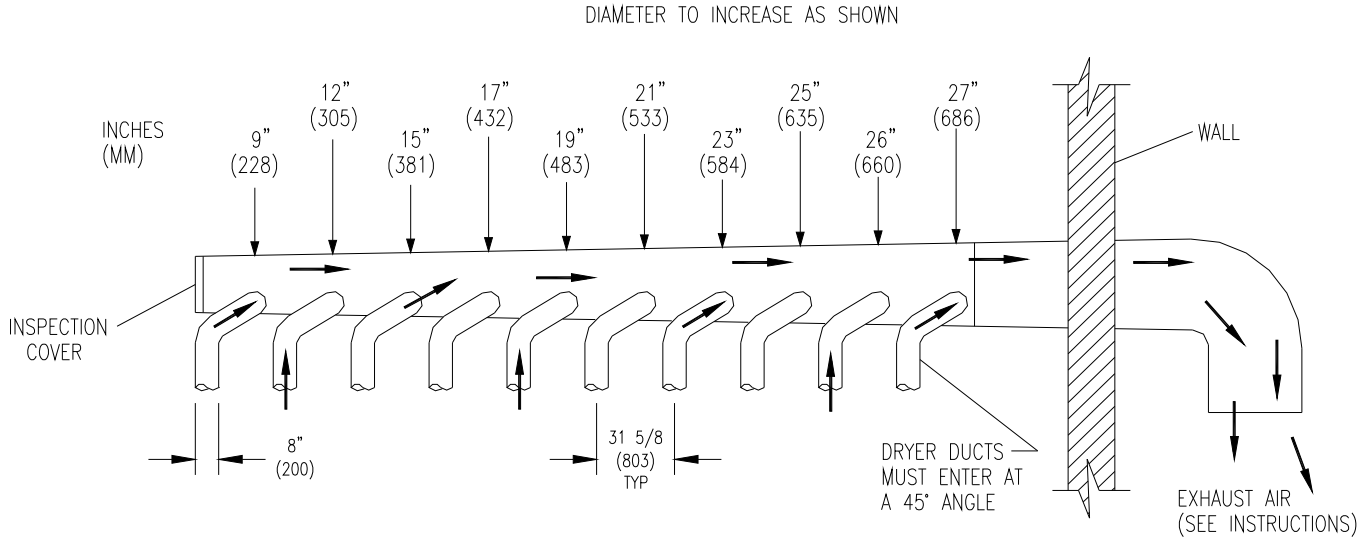

FIGURE 2- Dryer Exhausting Using A Main Discharge Duct.
6. EXHAUST INSTALLATION. (Refer to Figure 2 at the end of section 6.) Exhausting of the dryer(s) should be planned and constructed so that no air restrictions occur. Any restriction due to pipe size or type of installation can cause slow drying time, excessive heat, and lint in the room.
Installation of several dryers, where a main discharge duct is necessary, will need the following considerations for installation (see Figure 2). Individual ducts from the dryers into the main discharge duct should be at a 45 degree angle in the direction of discharge air flow.
**NOTE:** Never install the individual ducts at a right angle into the main discharge duct. The individual ducts from the dryers can enter at the sides or bottom of the main discharge duct. Figure 2 indicates the various round main duct diameters to use with the individual dryer ducts. The main duct can be rectangular or round, provided adequate air flow is maintained. For each individual dryer, the total exhausting (main discharge duct plus duct outlet from the dryer) should not exceed the equivalent of 20 ft. (6 m) and two elbows. The diameter of the main discharge duct at the last dryer must be maintained to exhaust end.